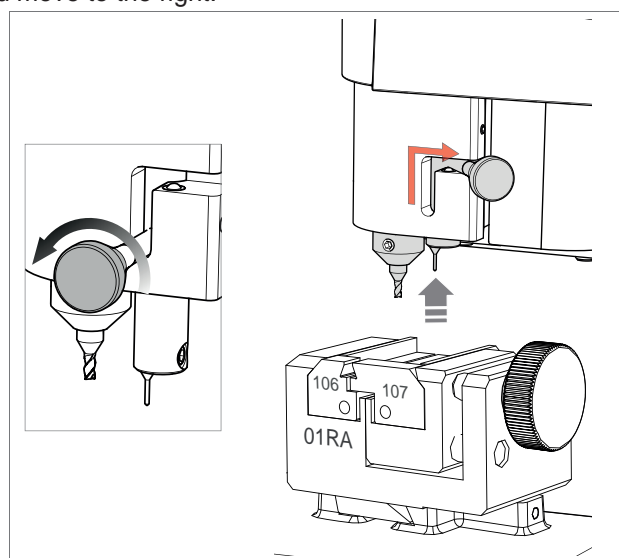

Fig. 50
- **EXCLUDING THE TRACER 07T (Fig. 50)**
NOTE: for cutting and/or decoding operations with the tracer point 06T, the tracer 07T must be in the idle position (Fig. 50). REPLACE THE 06T TRACER WITH THE REQUIRED CUTTER PRIOR TO ATTEMPTING TO CUT A KEY.